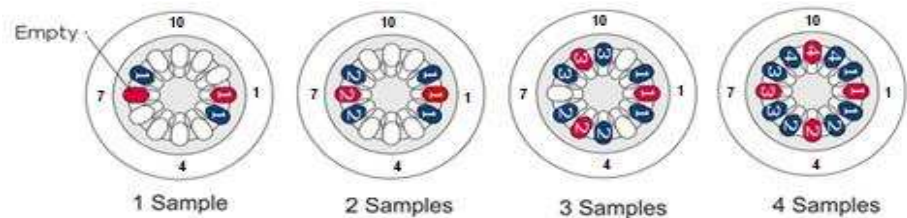

Figure 2. Rotor adapter placement in centrifuge.
- 11.Place rotor adapters in centrifuge as indicated in Figure 2, according to the number of samples.